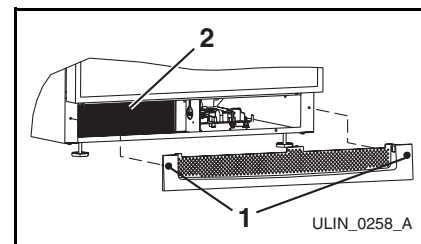

Figure 11
- Loosen two screws (**Figure 11, 1**) completely.
4. Clean the condenser coil (**Figure 11, 2**) using a soft brush with a “combing” action or vacuum cleaner. Do not touch the condenser coil.